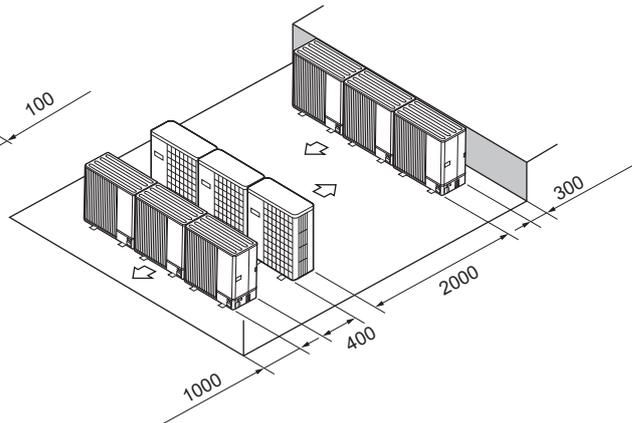

Fig. 1-17
- (6) Multiple parallel unit arrangement (Fig. 1-17)